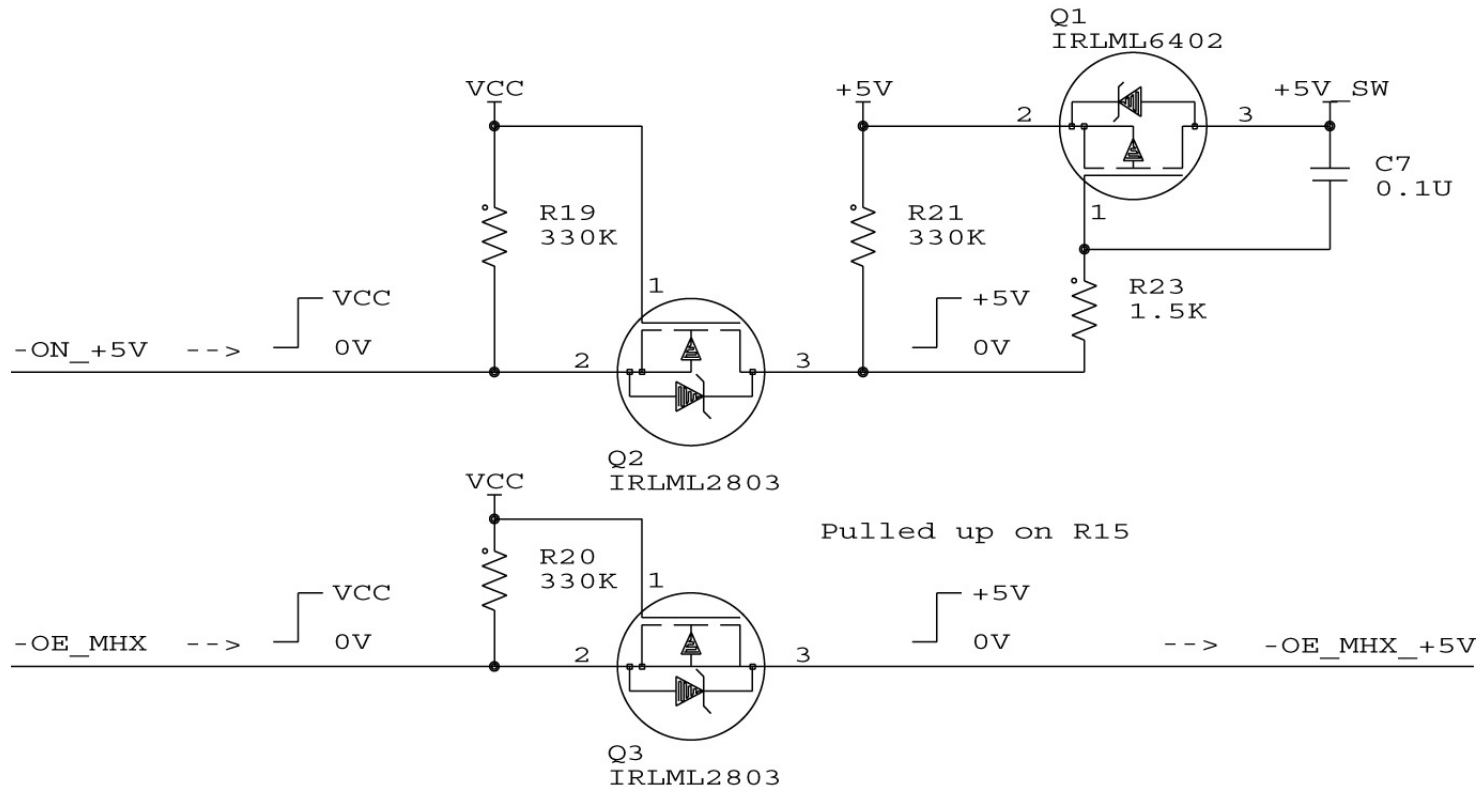

Figure 4: Level-shifting for Individual Unidirectional Control Signals
- Assuming that individual control outputs idle high, they can be level-shifted using discrete MOSFETs and resistors at zero power (Figure 4).